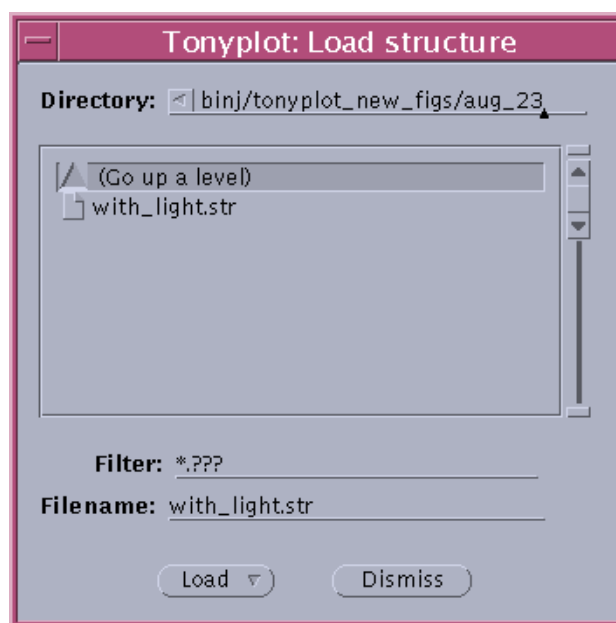

Figure 7-3: Load Structure Popup
- **Load structure** creates a popup (see Figure 7-3) which can be used to load structures. A list shows the current contents of the directory specified at the top of the popup. All subdirectories are shown (as folder icons), as are all files matching the specified filter.